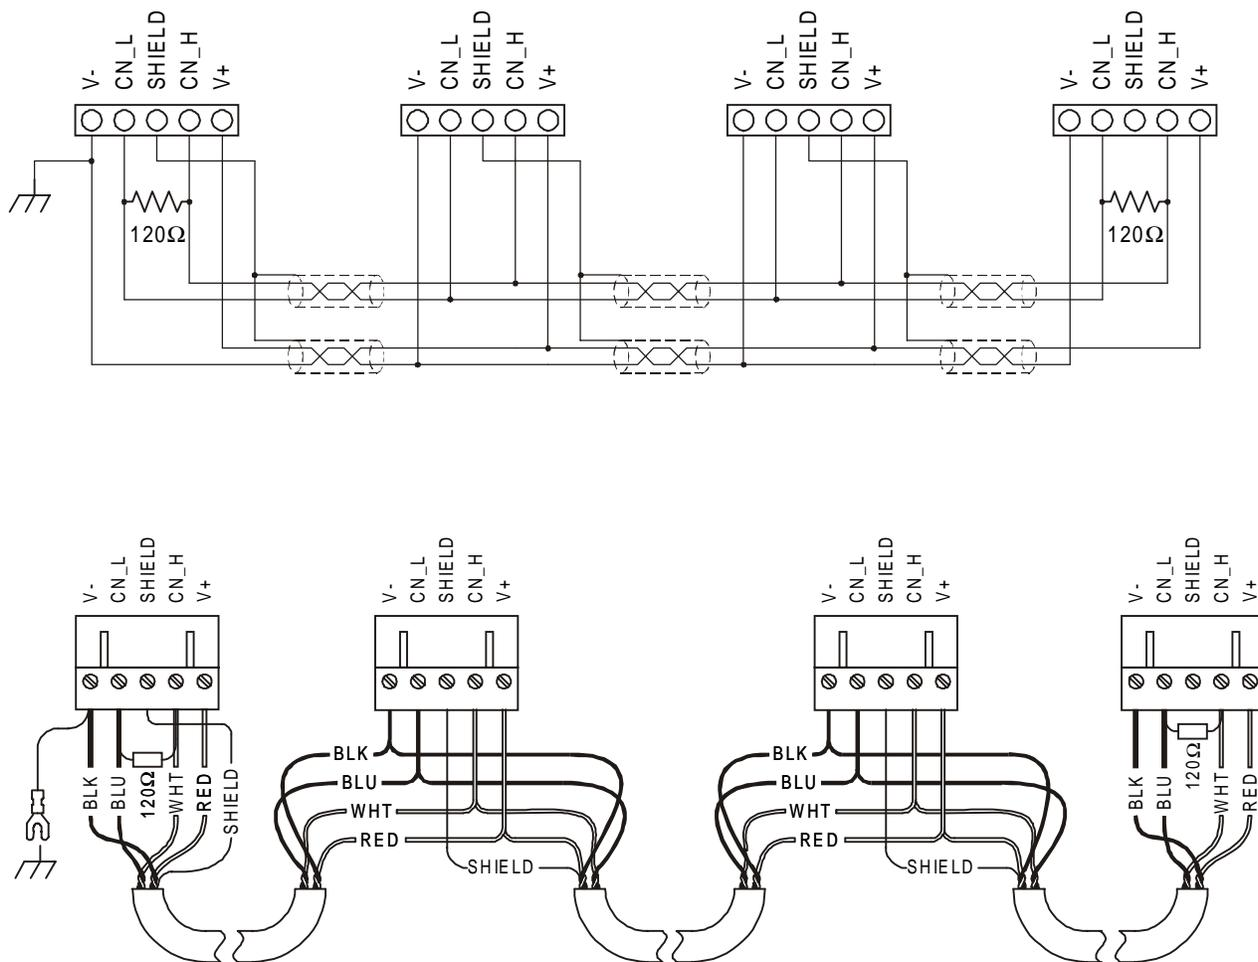

Figure 2.6 – CAN Port Wiring Diagram
a. CAN Wiring Rules (See Figure 2.6.)